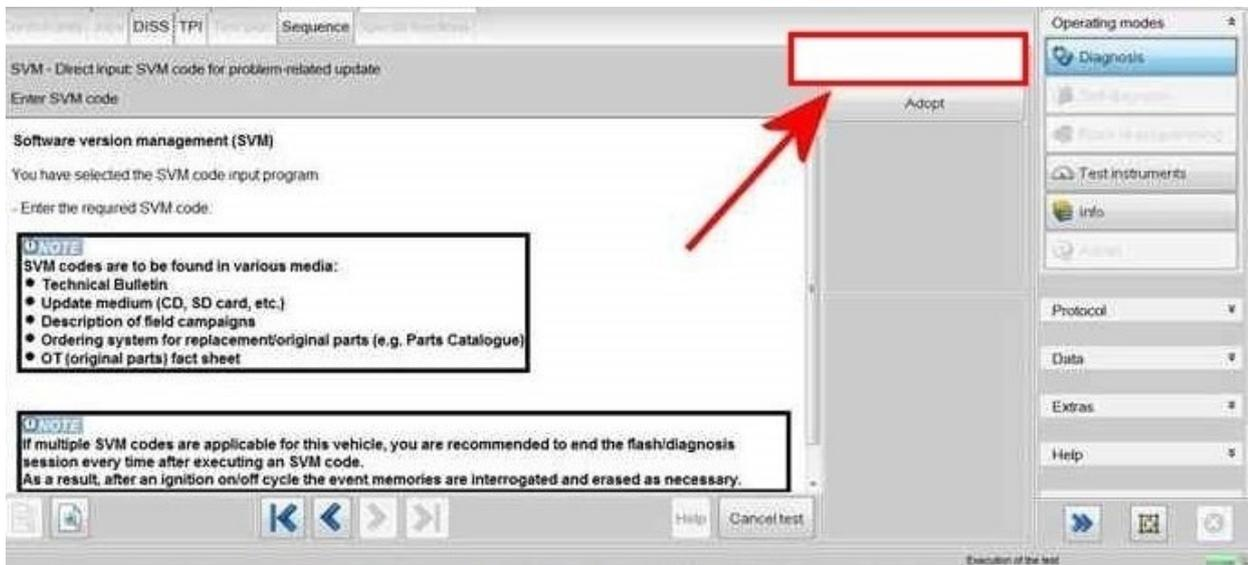

Figure 2
5. Referring to Figure 2 - Enter SVM code **370FTM01**